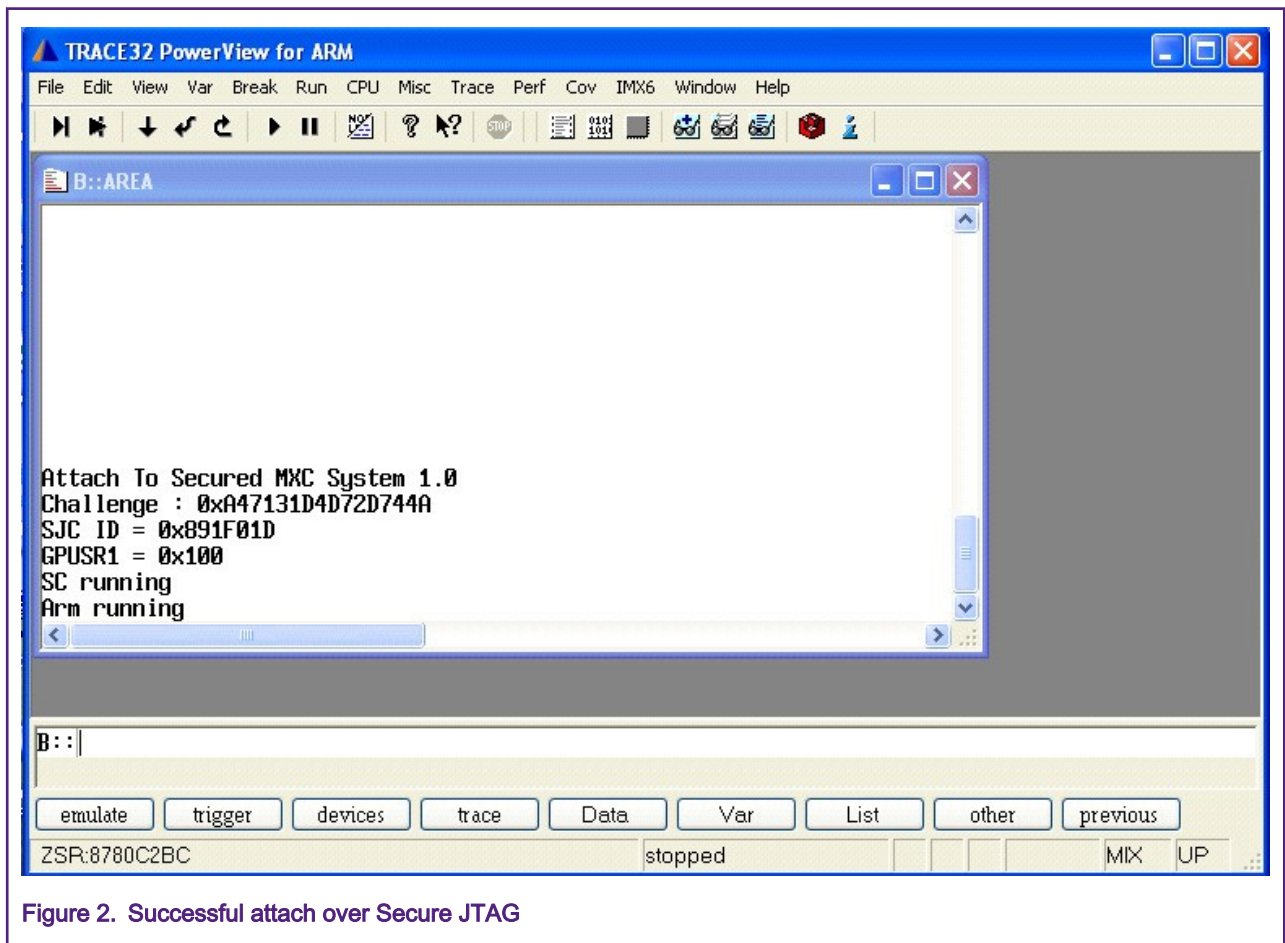

Figure 2. Successful attach over Secure JTAG
3. Run the Lauterbach attach script file named *attachimx.cmm* using the Lauterbach host application. The debug tool should successfully attach to the i.MX 6/7/8M family target over JTAG. Figure 2 shows a successful attach over Secure JTAG.